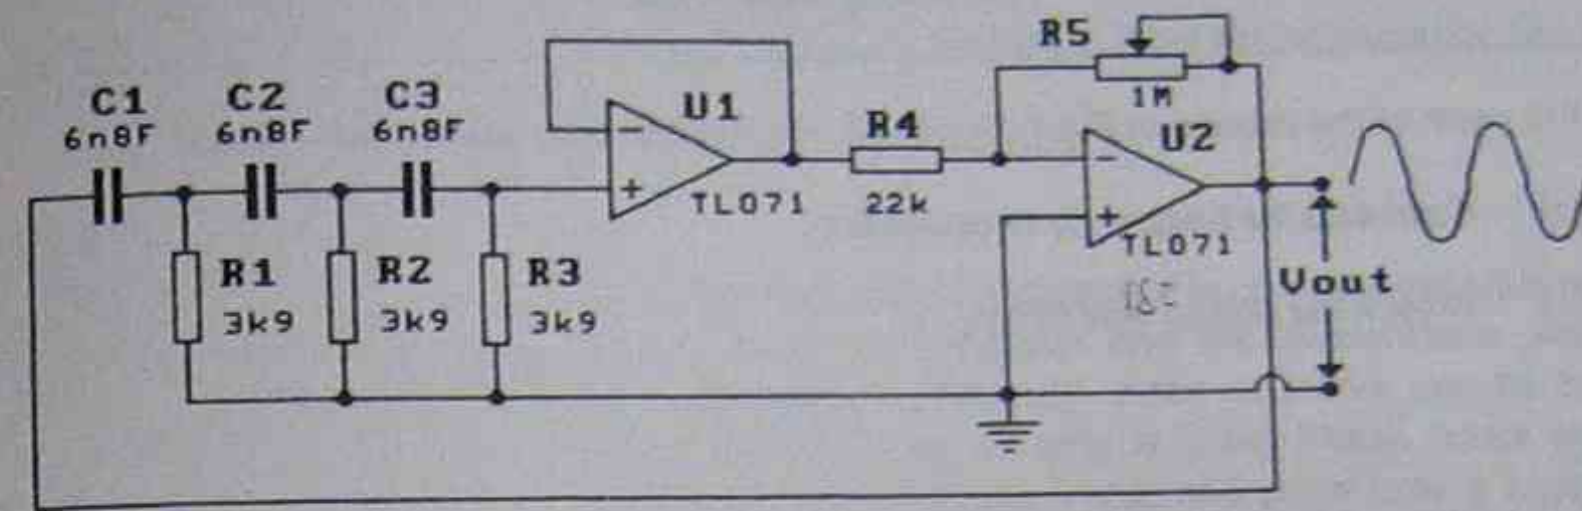
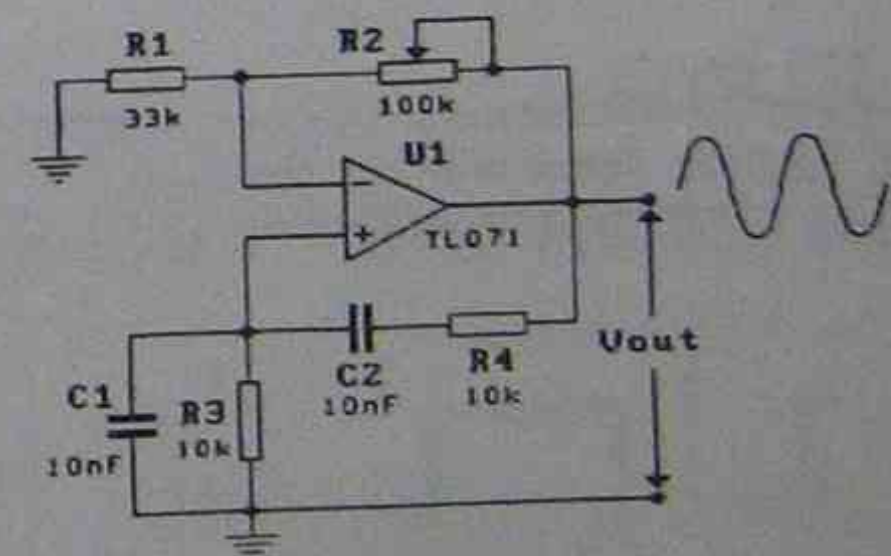

Fig.4: The phase shift oscillator.
Fig.5: The Wein bridge oscillator
The next two circuits are sine wave oscillators, and rely on the feedback being positive at one frequency only. To achieve this, an RC network is used in the positive feedback network and negative feedback is applied in the usual manner for an inverting amplifier. Fig.4 shows the phase shift oscillator, which consists of three RC cascaded networks in the positive feedback path. Op amp U_1 buffers the feedback network from the inverting amplifier U_2 .
Fig.5 uses an RC network in the positive feedback path to create a total loop phase shift of 360° at a single frequency. Note that the op amp is connected as a non-inverting amplifier, and the output of the op amp will be in phase with its input. The phase shift network (R_4 , C_2 , R_3 and C_1) has a phase shift of 0° at only one frequency, which is the frequency of oscillation. R_1 and R_2 provide negative feedback for U_2 which needs a gain of 3 to overcome the attenuation of the phase shift network.
1. For each of the circuits of Fig. 1, Fig. 4 and Fig. 5 in the associated theory notes: